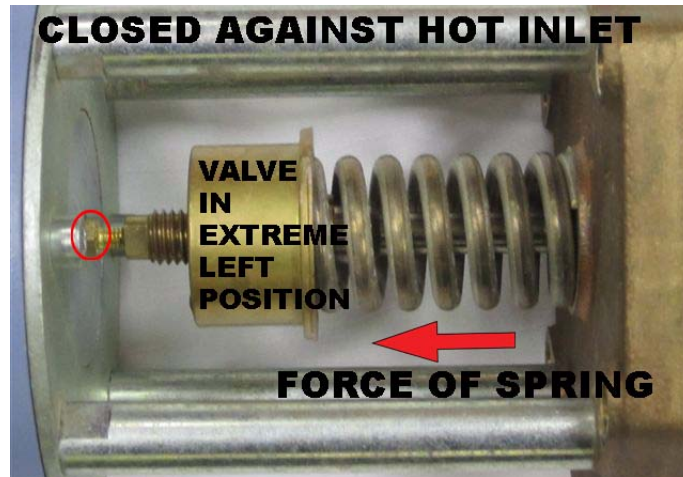

Figure 10 - Valve to extreme left - closed against Hot (0 Vdc)
Step 3. Place the limit thermostat probe in a cup of water at a temperature that is hotter than 65°C and less than 85°C. After a short time this should result in an audible 'click' as a result of the limit switch activating. This should also result in the LED on the top face of the 3 Way Valve Actuator Controller to go out. The 3 Way Valve should also close against the hot position (Refer to Fig. 10).